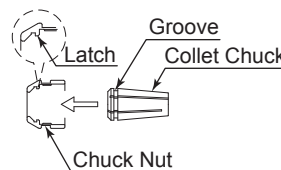

Fig. 6
- ③ To install the collet chuck, hold the collet chuck at a slight angle, and insert it into the chuck nut (Fig. 6).